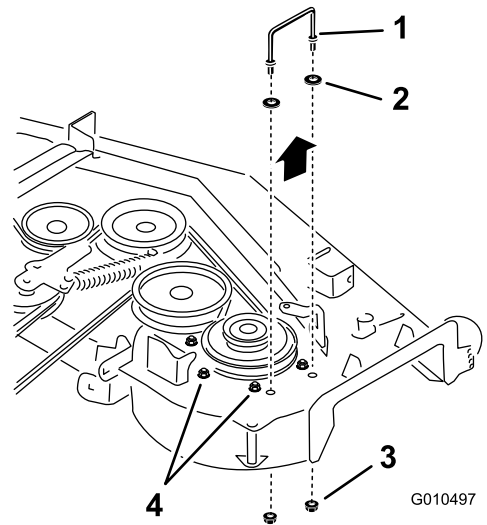
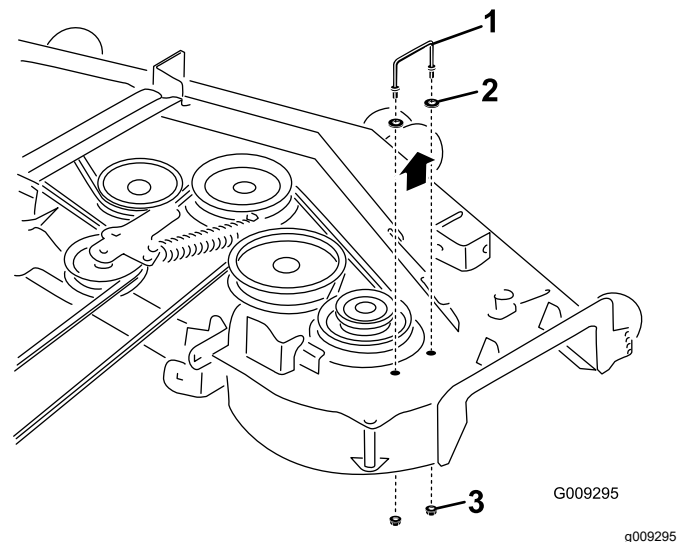

Figure 5
Figure 6
3. **For 48-inch and 52-inch mowers only:** Loosen the bolts holding the right spindle to the mower deck (Figure 5).
4. Remove the existing right belt cover bracket (Figure 5 and Figure 6).